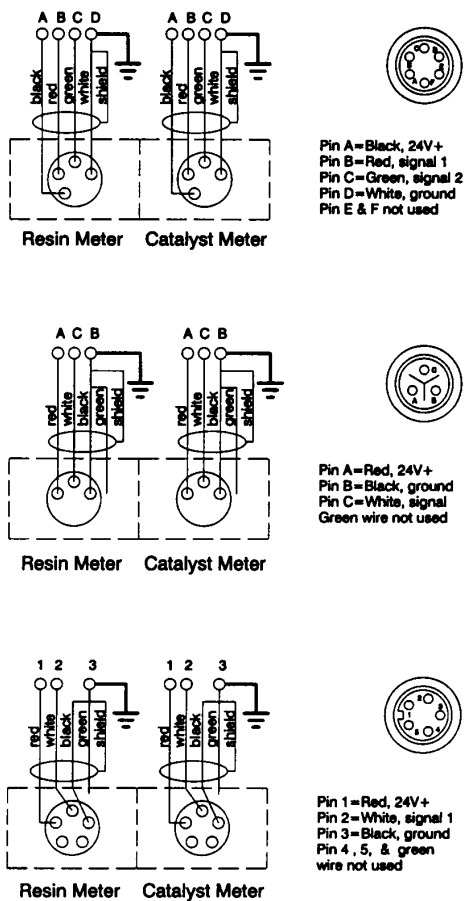

Fig 4
Meter cables must be connected as shown in Fig 4. Failure to properly connect the grounded conductor and shield may cause incorrect signals.
- 5 Flow Meter Cable; connect as shown in Fig 4.